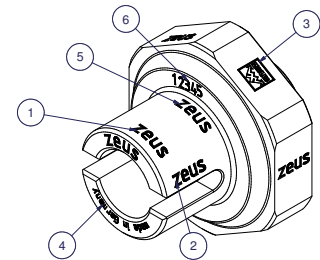

Figure 1: Area of application
Markings on faces (Fig. 1, ref. 4), cylindrical outer surfaces (Fig. 1, ref. 1), bevels (Fig. 1, ref. 3) and spherical surfaces (Fig. 1, ref. 2) are possible.
This tool type can be used modularly in front of and behind the rotation centre. For marking runs on a spherical surface/in an axial direction (cf. Fig. 1, ref. 2), the complete marking tool can be clamped rotated 90°.